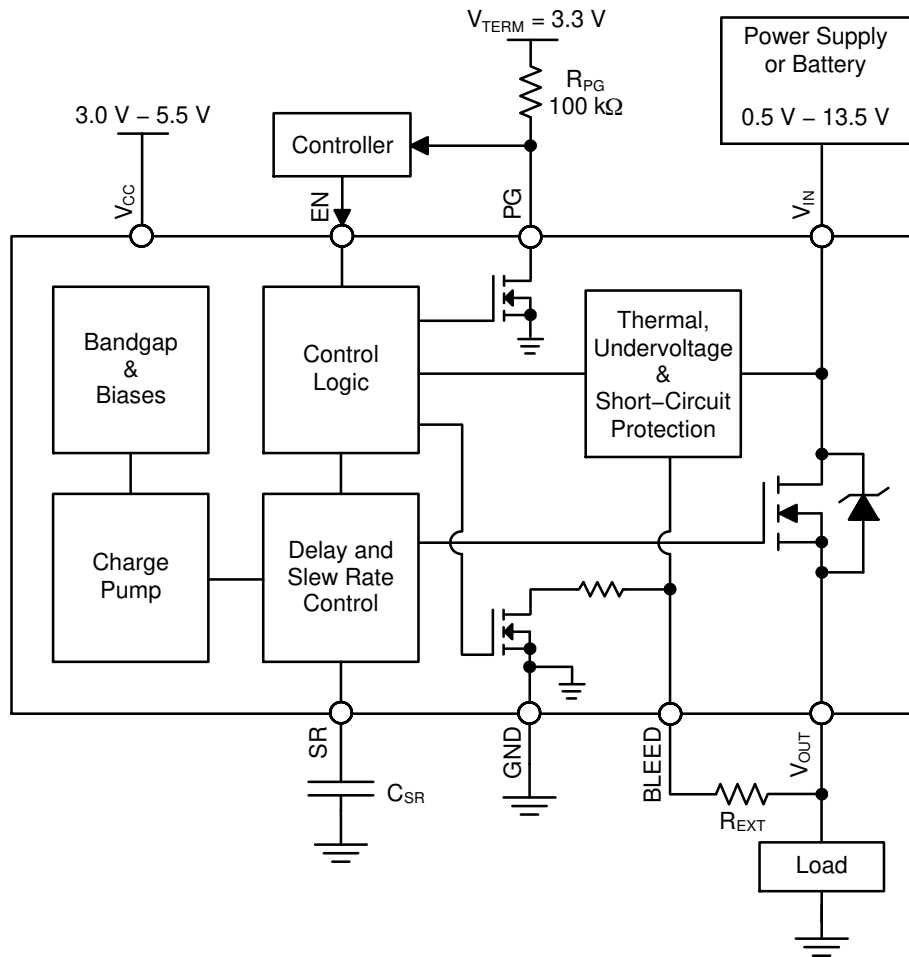
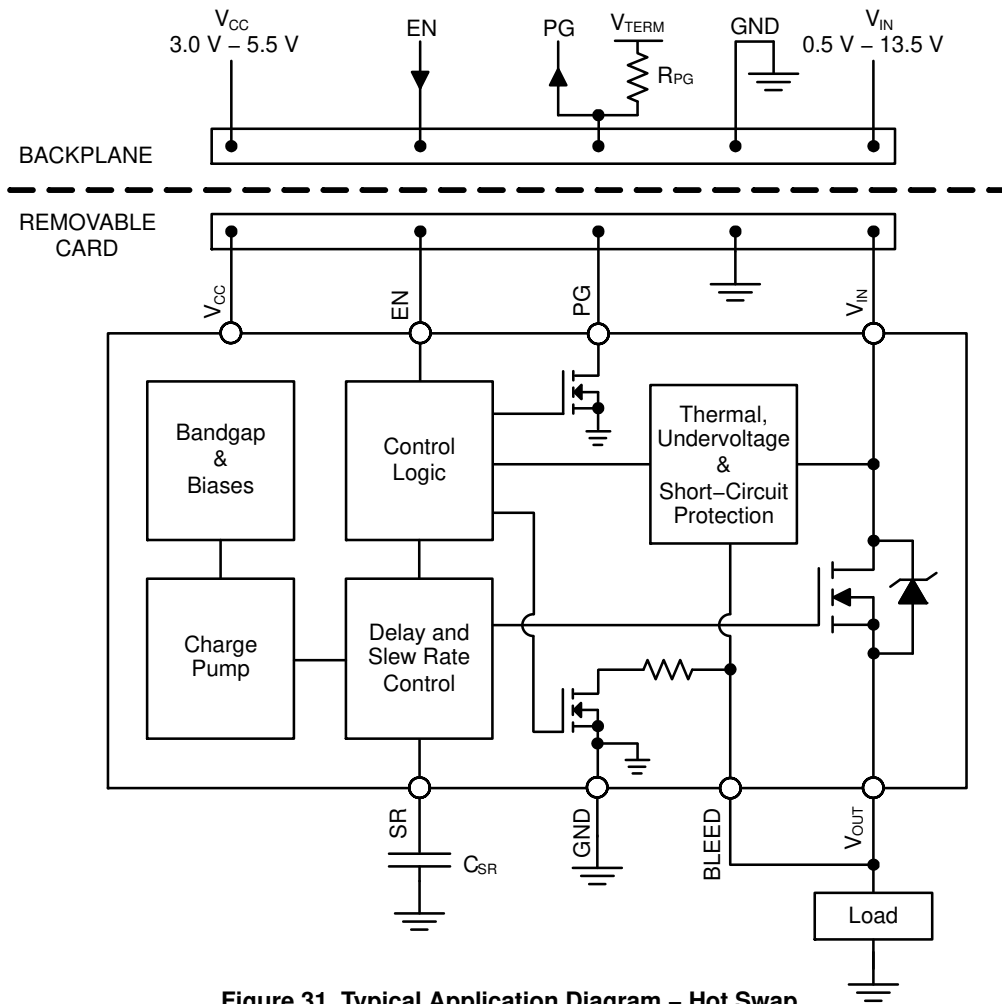

Figure 30. Typical Application Diagram – Load Switch
Figure 31. Typical Application Diagram – Hot Swap
It is required that the BLEED pin be connected to V_{OUT} either directly (as shown in Figure 31) or through an external resistor, R_{EXT} (as shown in Figure 30). R_{EXT} should not exceed 1 k Ω and can be used to increase the total bleed resistance.
The NCP45560 devices have a power good output (PG) that can be used to indicate when the gate of the MOSFET is fully charged. The PG pin is an active–high, open–drain output that requires an external pull up resistor, R_{PG} , greater than or equal to 1 k Ω to an external voltage source, V_{TERM} , compatible with input levels of other devices connected to this pin (as shown in Figures 30 and 31).
The slew rate can be decreased with an external capacitor added between the SR pin and ground (as shown in Figures 30 and 31). With an external capacitor present, the slew rate can be determined by the following equation:
Once active, the circuitry monitors the difference in the voltage on the V_{IN} pin and the voltage on the BLEED pin. In order for the V_{OUT} voltage to be monitored through the BLEED pin, it is required that the BLEED pin be connected to V_{OUT} either directly (as shown in Figure 31) or through a resistor, R_{EXT} (as shown in Figure 30), which should not exceed 1 k Ω . With the BLEED pin connected to V_{OUT} , the short–circuit protection is able to monitor the voltage drop across the MOSFET.